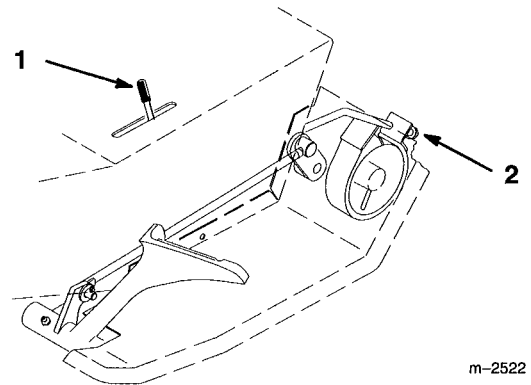

Figure 24
The brake adjustment is behind the left side cover (Fig. 24). If the parking brake does not hold securely, an adjustment is required.
3. To adjust the brake tighten adjustment nut until rear wheels skid, then tighten an additional 1/2 turn (Fig. 24).